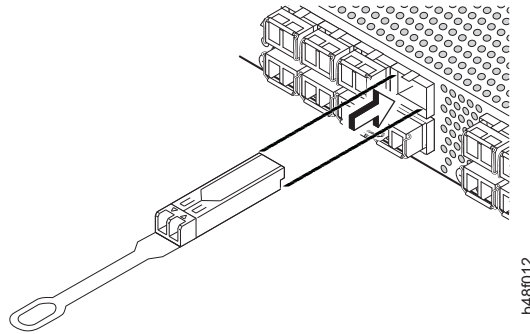
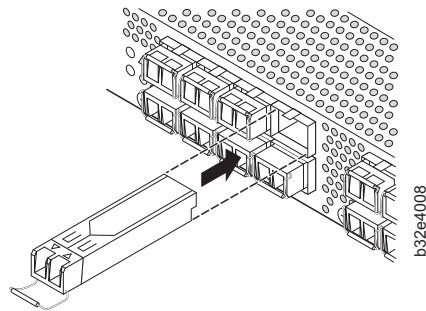

Figure 8. Installing a 16 Gbps SFP+ with pull tab (shown without cable attached)
Figure 9. SFP+ with wire bail latch
The 16 Gbps SFP+ transceivers have an attached pull tab and no latching wire bail. To simplify insertion of the 16 Gbps SFP+ transceivers, it is recommended to connect the cables first, and then insert them as a unit into the port. Figure 8 on page 21 shows the installation of a 16 Gbps SFP+, and Figure 9 on page 21 shows the installation of an 8 Gbps SFP+ with a wire bail latching mechanism.
2. Making sure that the bail (wire handle) is in the unlocked position, place the 8 Gbps SFP+ in the correctly oriented position on the port, as shown in Figure 9.